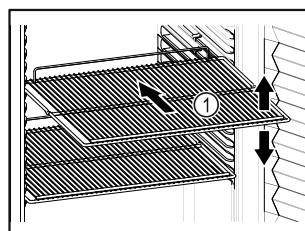

Fig. 88 Example illustration
- If there are adjustable shelves Fig. 88 (1), position them as required.